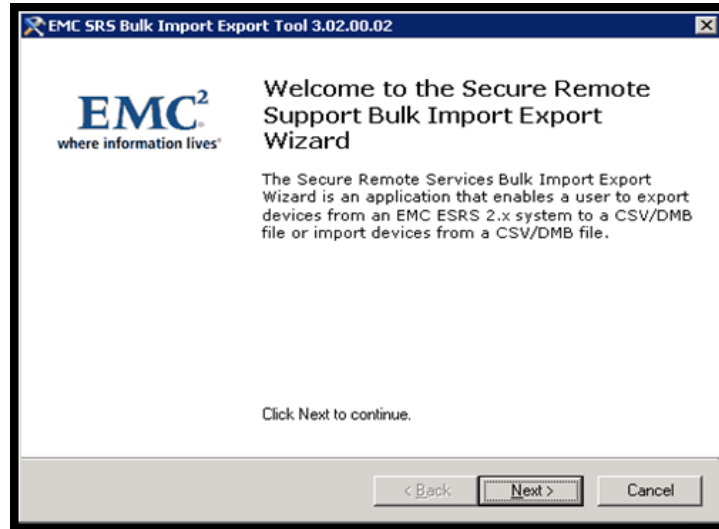

Figure 129 Clicking Next
6. Click **Next**, as shown in Figure 129 on page 103.